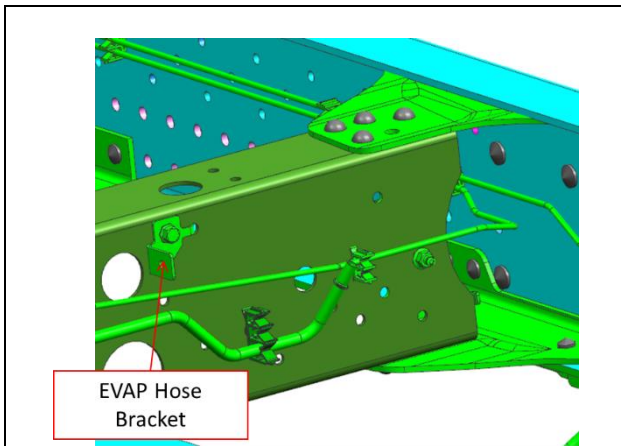

**Figure 10**
8. Install the new Valve bracket using the nut on the cross member as indicated in Figures 10 and 11. Tighten the nut to 22 N·m (16 lb-ft).